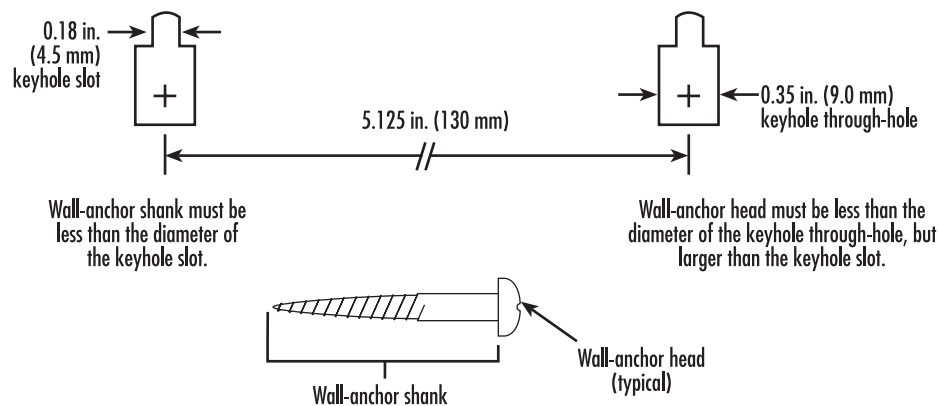

Figure 35. Wall-mounting hole dimensions
1. Using figure 35 as a guide, determine the positions of the mounting holes on the wall and mark the locations of the mounting holes.